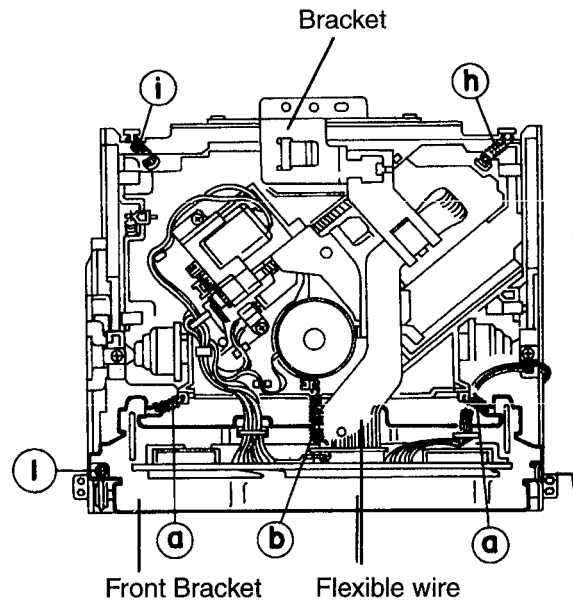
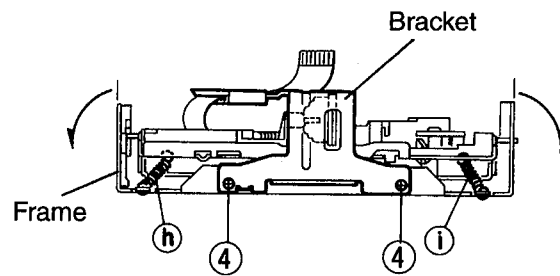
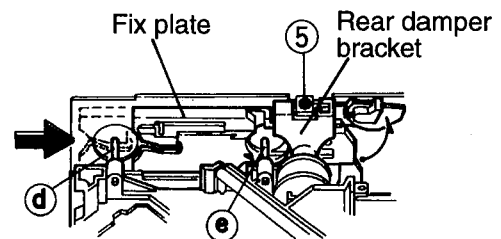
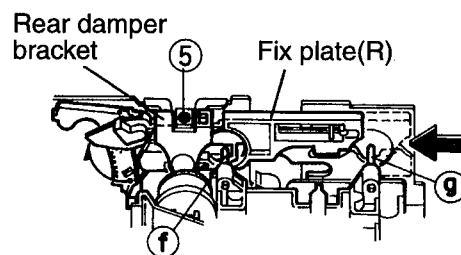

Fig.10
Fig.16
Fig.17
Fig.18
- 2.Remove the three springs (a) and (b) from behind the CD mechanism assembly(See Fig.10).
- 3.Disconnect the flexible wire connected to the connector on the CD mechanism control P.C.board (See Fig.10).
- 6.Remove the two screws (1) retaining the front bracket for fixing the CD mechanism control P. C. board(See Fig.10 or 13).
- 1.Remove the two screws ④ retaining the bracket for fixing the damper(See Fig.16)
- 2.When shining the fix plate on the right and left Sides respectively to the arrow direction, lower the entire CD mechanism. When the shafts(④ , ⑤ , ⑥ and ⑦) on both the right and left sides have been set free as shown in Fig.17 and Fig.18,then the assembly can be removed easily.Remove the two screws ⑤ retaining the rear damper bracket to make it easier to remove the damper from the rear damper bracket(See Fig.10, Fig.17 and Fig.18).
- 3.Remove the two springs ⑧ and ⑨ as shown in Fig.10 and Fig 16.